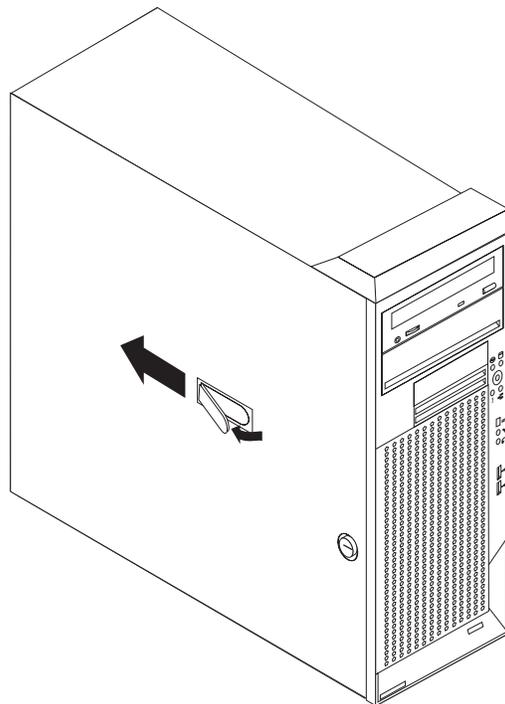

Figure 10. Removing the side cover
4. Pull the cover-release latch away from the computer, and push the cover toward the rear of the computer (see Figure 10). Lift the side cover off the computer and set it aside.